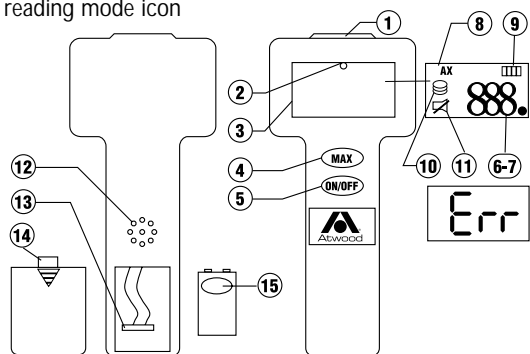

Fig. 1
1. Open the battery door and install the battery FIG 1.
3. Turn the detector on by pressing the ON/OFF button FIG 1.